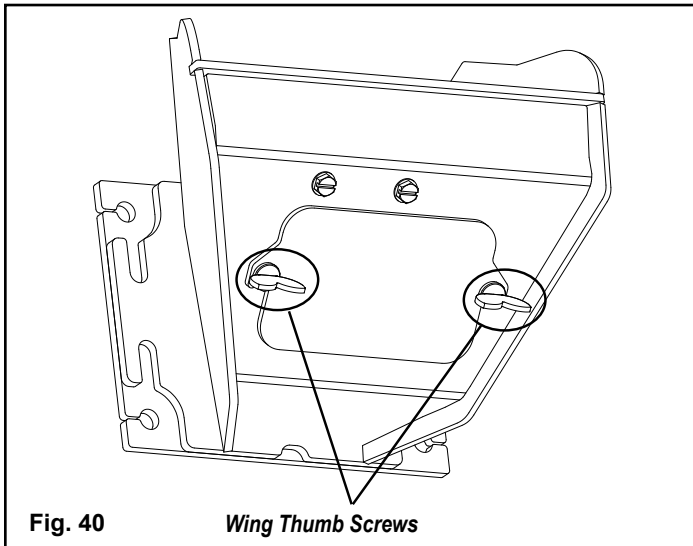

Fig. 40
2. Loosen the (2) wing thumb screws on the lower front angle of the burn pot. (Fig. 40)